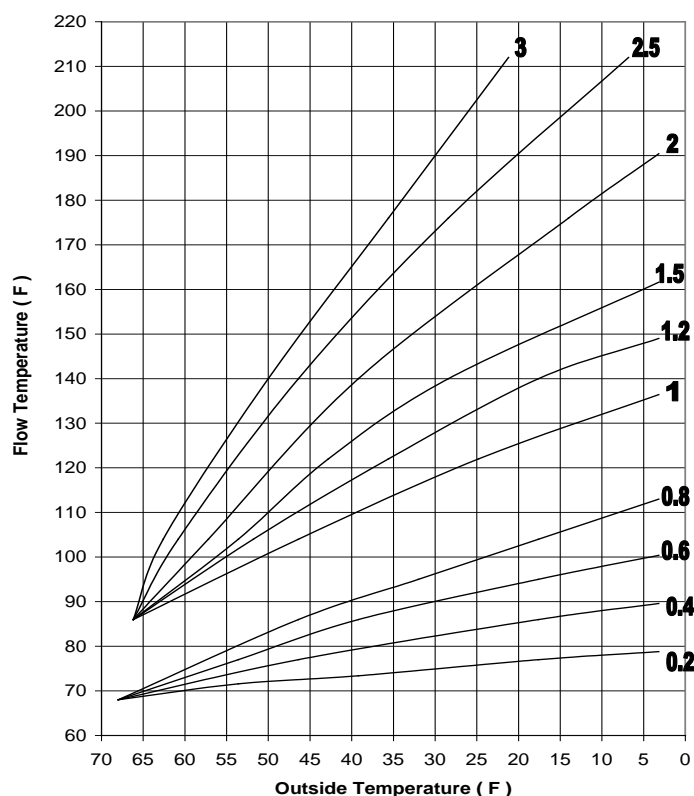

Figure 5-1: Heat Slope Diagram
8. Refer to Heat Slope Diagram (**Figure 5-1**) to determine the required value for the **HEATSLOPE** function based on the boiler installation design set point. The value entered must be between 0 and 3.00.
To select the best HEATSLOPE value to enter into the E8 Controller, consider the set of heat slope curves shown in **Figure 5-1**. Locate the two points given by the coordinate pairs (Outside Temperature, Flow Temperature); One for the low temperature range and one for the high temperature range. Now find the curve that best fits these two points. Do not expect any single curve to go through either point, let alone *both* points. Simply pick the best fit.